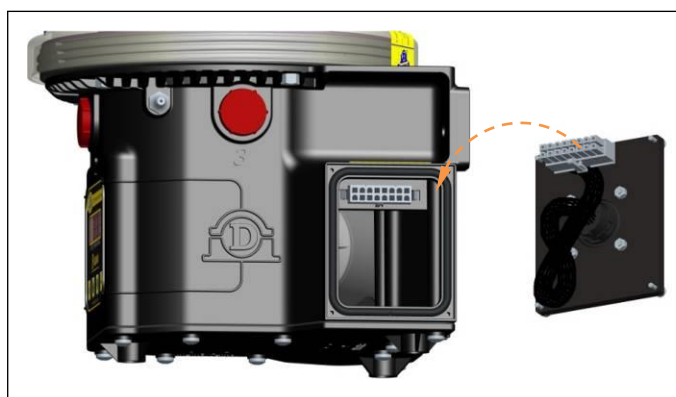

fig. 1
- Connect the multi pin connector from the base plate until security locking (fig.1).